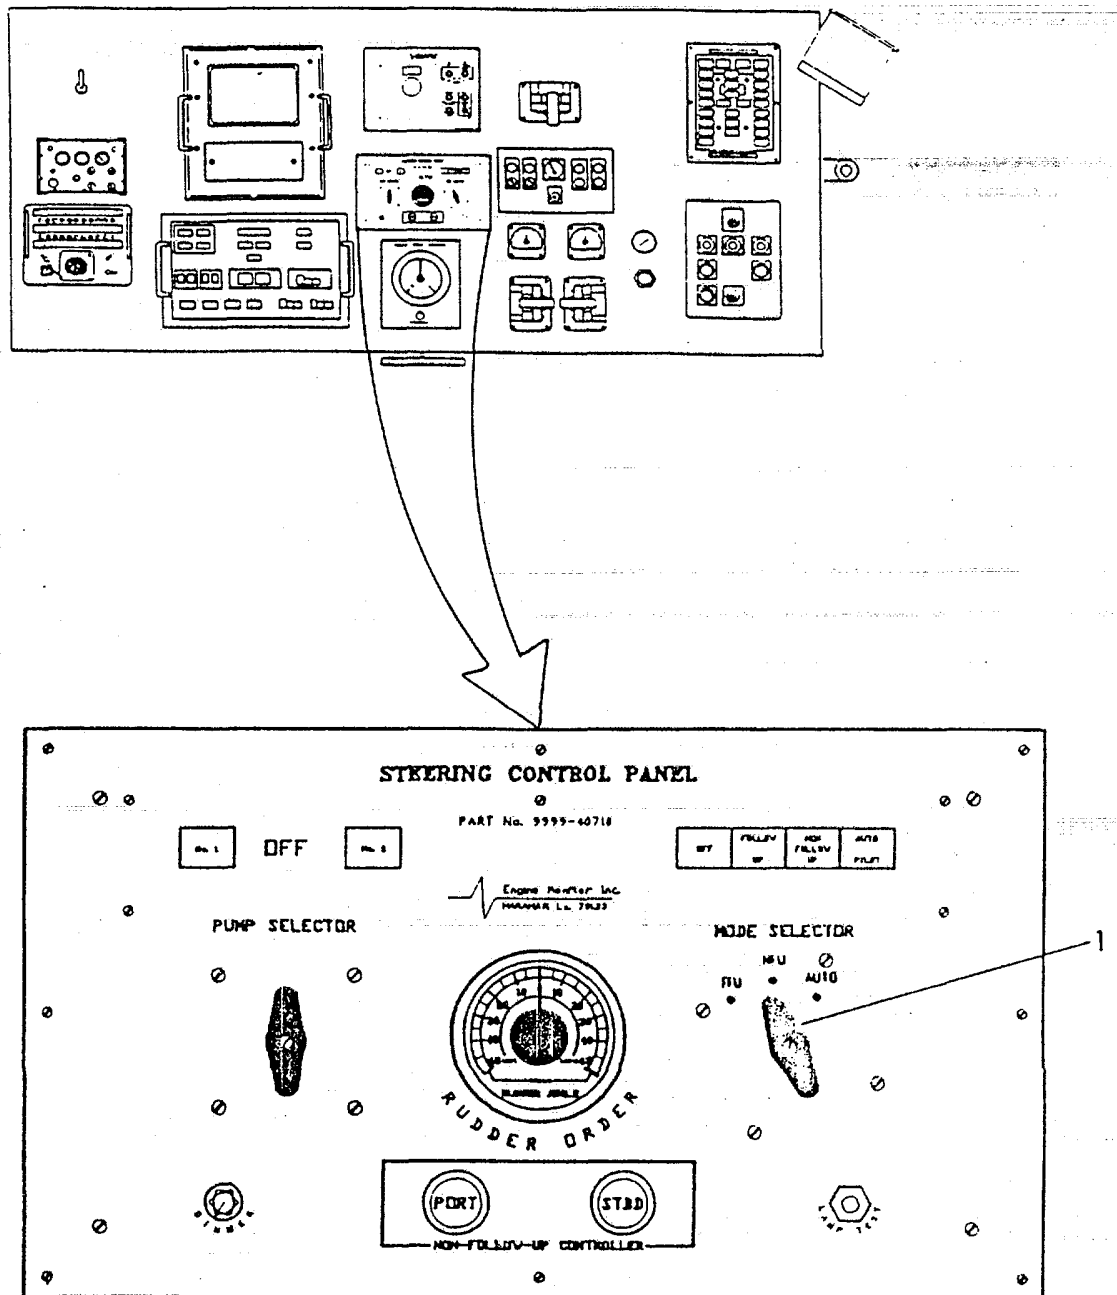
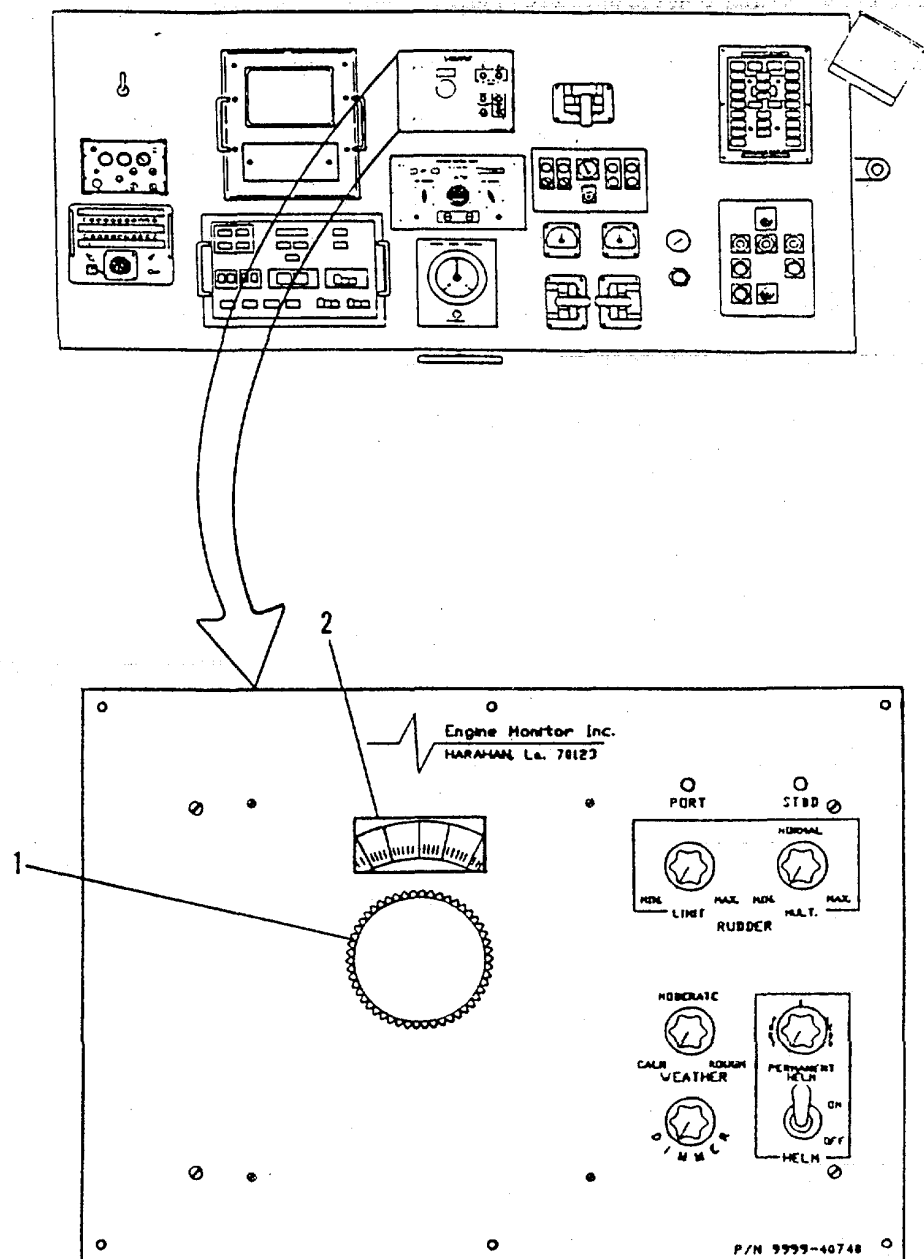

FIGURE 2-123.1. Steering Control Panel
Figure 2-123.2. Autopilot Control Panel
- (1) On the Steering Control Panel (Pilothouse Console), set MODE SELECT switch (1, FIGURE 2-123.1) to AUTO position.
- (2) Auto mode locks onto ship heading.
- (3) To change course in AUTO mode, on Autopilot Control Panel (FIGURE 2-123.2) turn the heading changer (1) to the left or right.
- (4) Autopilot will bring LCU to new selected heading as indicated on the indicator dial (2).